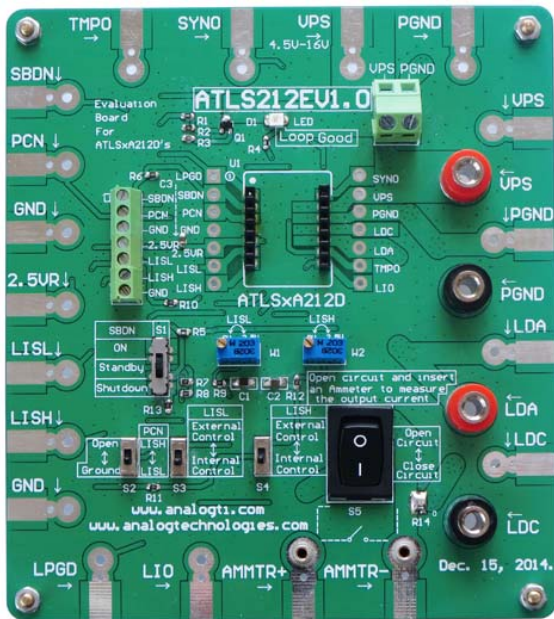
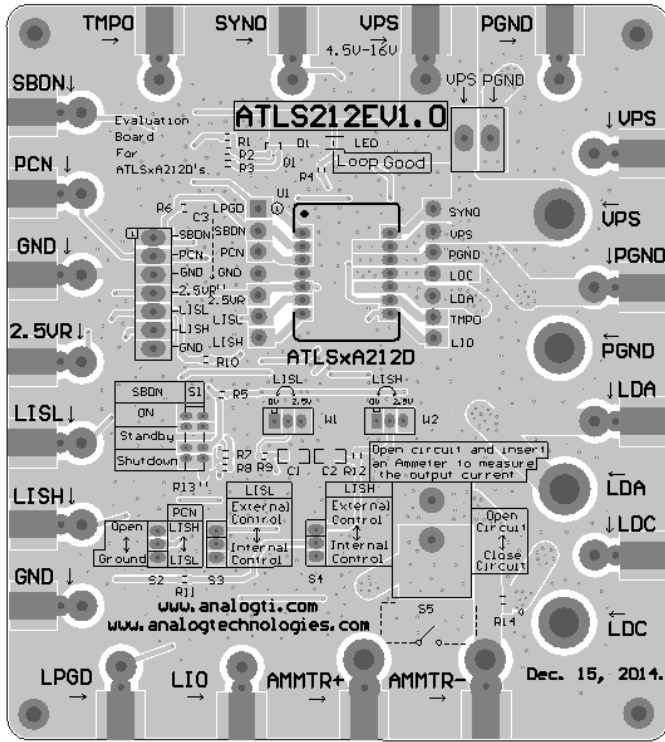
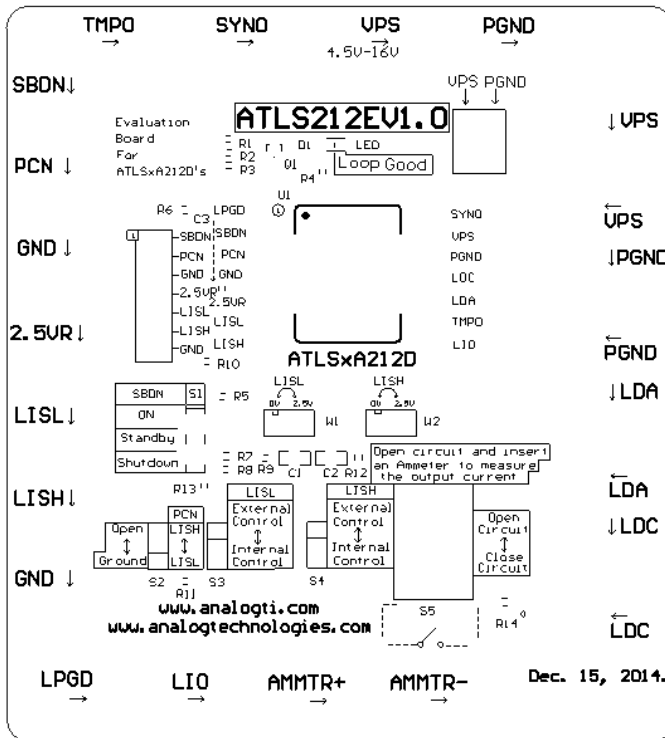

Figure 1. Physical Photo of ATLS212EV1.0
Figure 2. Top Silkscreen Layer with Other Top Layers
Figure 3. Top Silkscreen
This evaluation board is shown in Figure 1. On the 4 edges of the board, it features solder pads for all the interface ports provided by the laser driver. The solder pads can be used by clips or soldered with wires for connecting to external circuits. The power supply input is connected on the upper edge of the board. The incoming wires can be soldered on the pads, or clipped by alligator clips, or use the terminal block and tight the wires by the screws. In the upper middle of the board, there is an LED. When the controller works properly, it will be lit up. On the left side of the controller, there is a terminal block. It can be used for connecting wires going into the ports of the laser driver. On the lower side of the laser driver, there are 2 POTs (Potentiometers) for setting the lower and upper values of the set-point current.
When the laser driver uses these POTs for setting the current values, push down the 2 switches below the POTs, see Figure 1 and Figure 2; when using external signals to modulate the laser driver output current, leave the 2 switch knobs onto the upper position, as marked on the board. The lower left corner switch is for selection which of the control ports is used for setting the laser driver current: LISL or LISH. The output current can be measured by a current meter, which can be inserted between the 2 multi-meter lead sockets: AMMTR+ and AMMTR-, which is located on the lower edge of the board. When an Ammeter is inserted into the circuit, turn switch S5 onto the upper position, the open circuit the meter leads, so that the current will go through the meter, thus the current will be measured. When the Ammeter is absent, turn the switch S5 down, to short circuit the current meter terminals so that the current will go through the switch to close the circuit.
The silkscreen layer of the evaluation board is shown in Figure 2 with other top layers, including top silkscreen, top copper, top solder mask, and multilayer (vias). Figure 3 shows the image of top silkscreen layer only.
1. Hook up the power supply. There are 2 solder pads in the upper right area on the edge for connecting the power supply. The connection can be done by clipping or soldering on the pads, or locking in 2 wires through the terminal block 2TB by tightening the 2 screws, see Figure 1. The power supply can set to between 4.5V and 15V. When using a lower voltage power supply, the power consumption of the driver will get smaller, thus, the driver will be working at higher efficiency. But the voltage has to be at least 1V higher than the laser diode forward voltage value, otherwise, the output current is out of control by the laser driver.